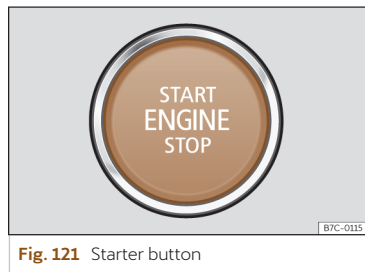

Fig. 121 Starter button
When entering the vehicle, the start button >>> Fig. 121 flashes to draw attention to it.
- Press the start button  **Fig. 121** without pressing the accelerator. There must be a valid key in the vehicle for the engine to start.
- Briefly press the start button >>> **Fig. 121.**